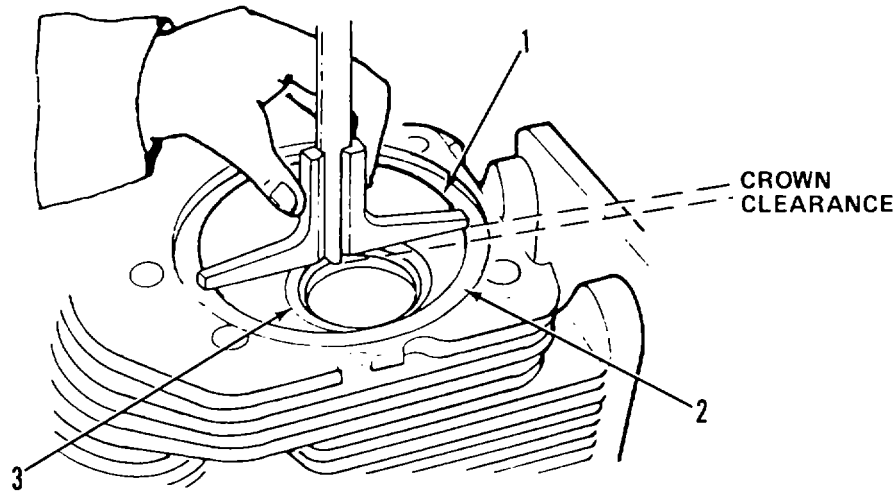

Figure 4-4. Cylinder Head Measurement
- (1) Check head seating surface (1, Figure 4-4). Reface damaged seating surface on cylinder head.
- (2) When refacing seating surface, make sure a 0.23 in. (5.84 mm) minimum distance must be maintained between seating surface and head crown. Measurement is taken with intermediate ring installed.
- (3) Install a valve in cylinder head.
- (4) Measure distance between face of valve and cylinder head seating surface with intermediate ring (2) installed.
- (5) If measurement does not exceed 0.224 in. (5.689 mm), go to step (9).